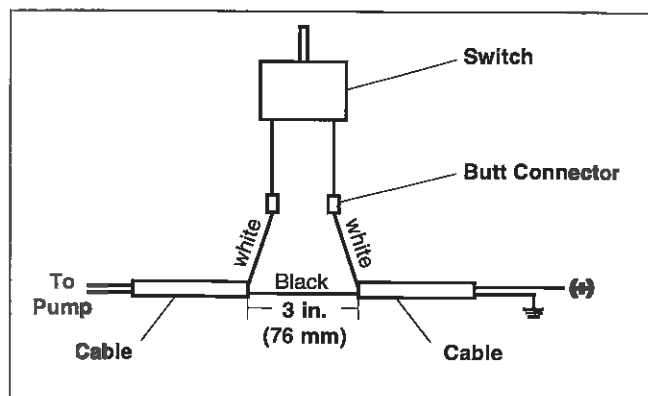

figure 65
4. Install electric controls (figure 65).